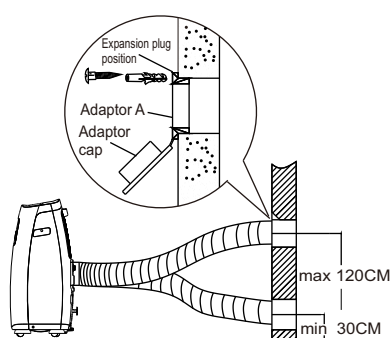

Fig.18
1. Prepare a hole in the wall. Install the wall Exhaust adaptor A onto the wall(outside) by using 4 expansion plugs and wooden screws, be sure to fix thoroughly. (See Fig.18)